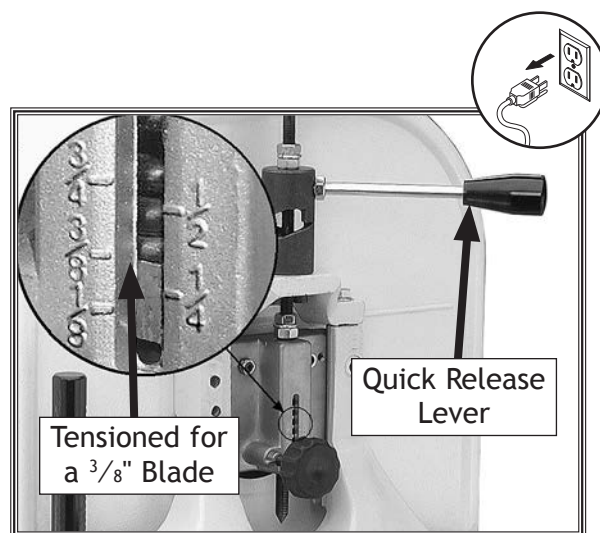

Figure 14. Tension applied for a $\frac{3}{8}$ " blade.
3. Move the blade tension quick release lever all the way right (as viewed from the rear of the machine) to apply tension to the blade (see **Figure 14**).
4. Use the tension knob on top of the bandsaw to bring the upper edge of the indicator block to the appropriate blade tension scale mark for the blade width (see **Figure 14**).